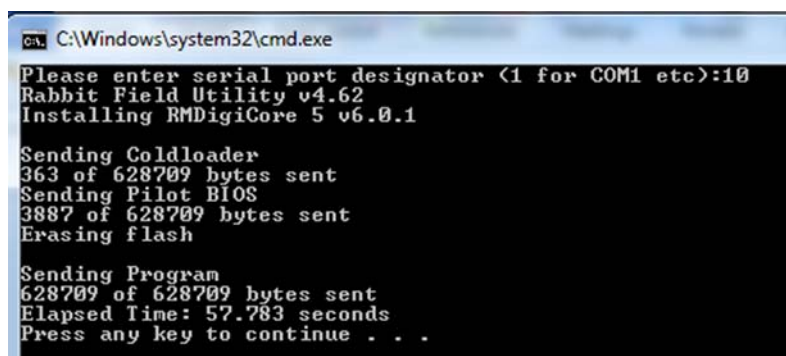

Figure 3-18: Command Window Showing Program Prompts
5. Locate and run Upgrade.bat script file which was provided in firmware upgrade package. File will open command prompt window and request programming serial port designator. Enter port designator located in previous step and then press "Enter". The script file will start downloading a new image file to the HPA. The resulting window is shown in **Figure 3-18**;